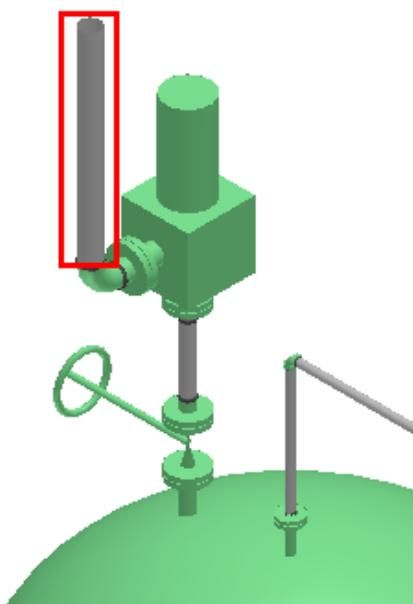

Figure 11.31: Vent Pipe
16. Click in the graphic View to place pipe. Pipe run should resemble Figure 11.31.